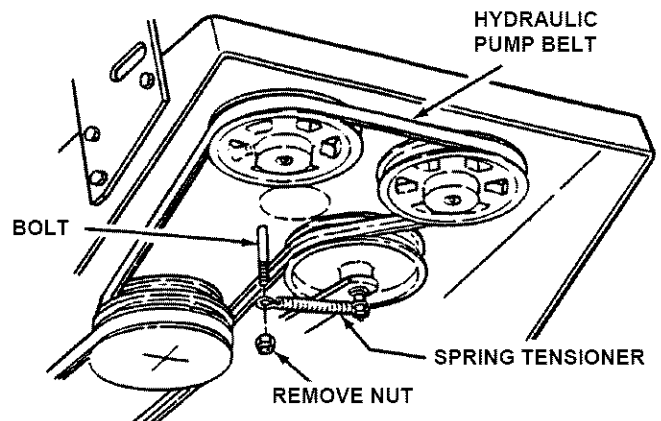

FIGURE 4.4
1. STOP ENGINE! Loosen and remove Nut from under the Spring Tensioner for Hydraulic Belt Idler Tensioner. Remove Spring from Bolt. See Figure 4.4.